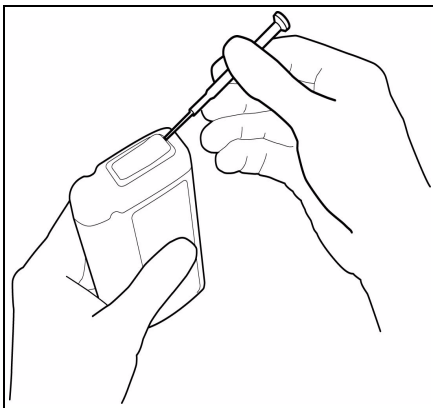

FIGURE 10-4 Removing Telepack-608 Flexible Cover
1. Using care, remove the flexible cover from the connector on the bottom of the Telepack-608 by using a small flat-blade screw driver or other similar tool (shown in FIGURE 10-4).